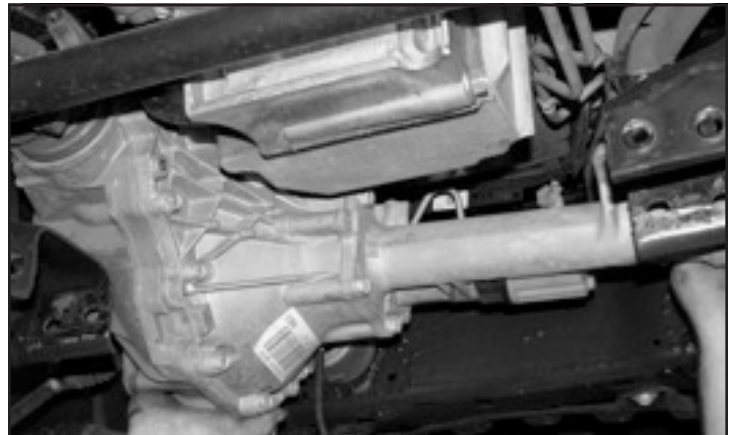

FIGURE 10 - STEP 12
12. Disconnect the drive shaft from the front differential solenoid wiring. Disconnect the differential vent tube and remove the diff. **SEE FIGURE 10**